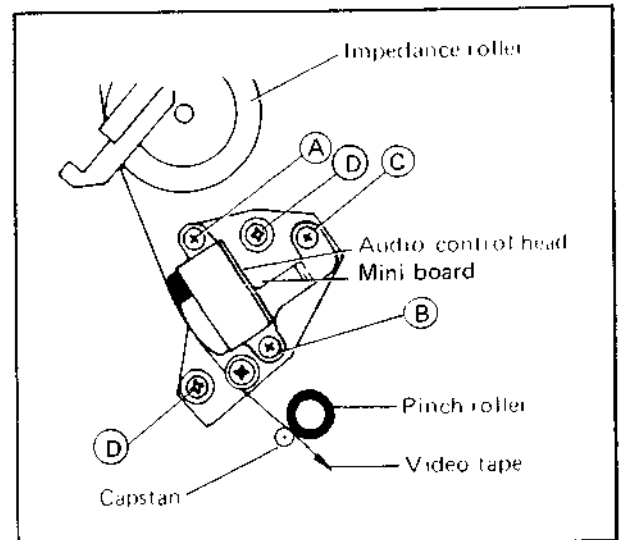

Fig. 5-14 A/C head position
3. Observe the TV image and while the tape running is stopped, loosen 2 screws (D) (Fig. 5-14) and adjust the A/C head position to just eliminate the bar noise. After adjusting, tighten the screws and apply a small amount of (hobbyist) glue to secure them.